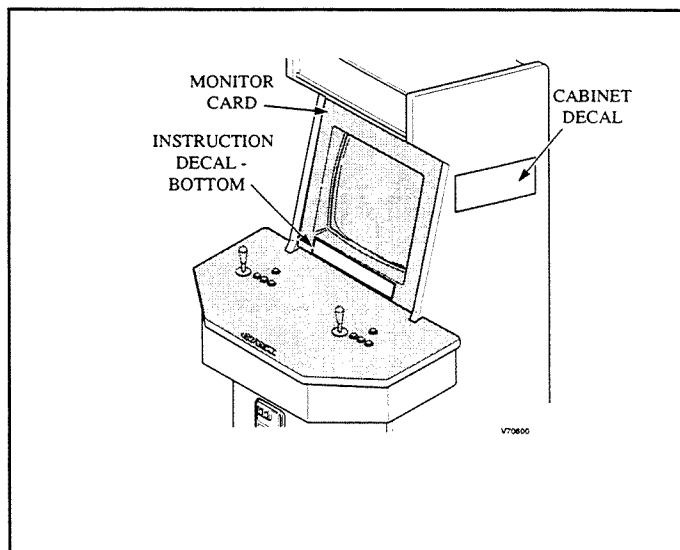

FIGURE 5
20. Peel-off the backing to the instruction decal and place on the bottom of the monitor card. (See Figure 5). Also, apply the cabinet decals to both sides of the cabinet.